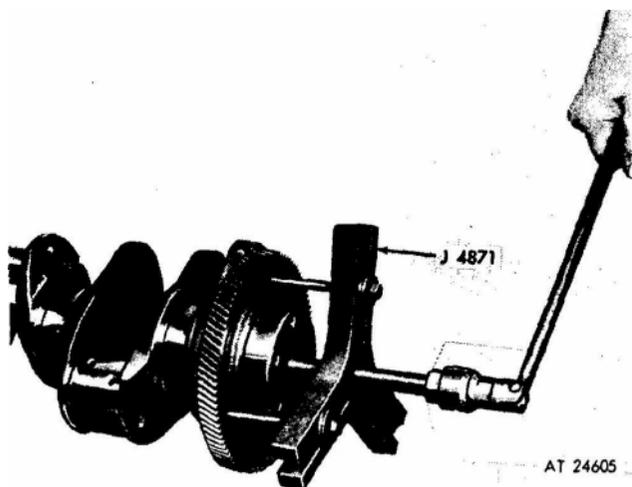

Figure 1. Removing crankshaft timing gear.
The crankshaft gear is keyed and pressed onto the crankshaft and drives the balance shaft gear (on In-line engines) through an idler gear. (See figures 5 and 6 under General Description.) Since the camshaft and balance shaft gears (on In-line engine) must be in time with the crankshaft gear, timing marks are located on the rim of the idler gear with corresponding *marks* stamped on the crankshaft gear, camshaft and balance shaft gears, as shown in figure 1, section 1.7.2. Timing marks IROVL and IRΔVR are stamped on the rim of the crankshaft gear.
1. Attach bar type puller J 4871 to the crankshaft gear with three long bolts or hooks, flat washers and nuts through holes in the gear as shown in figure 1.